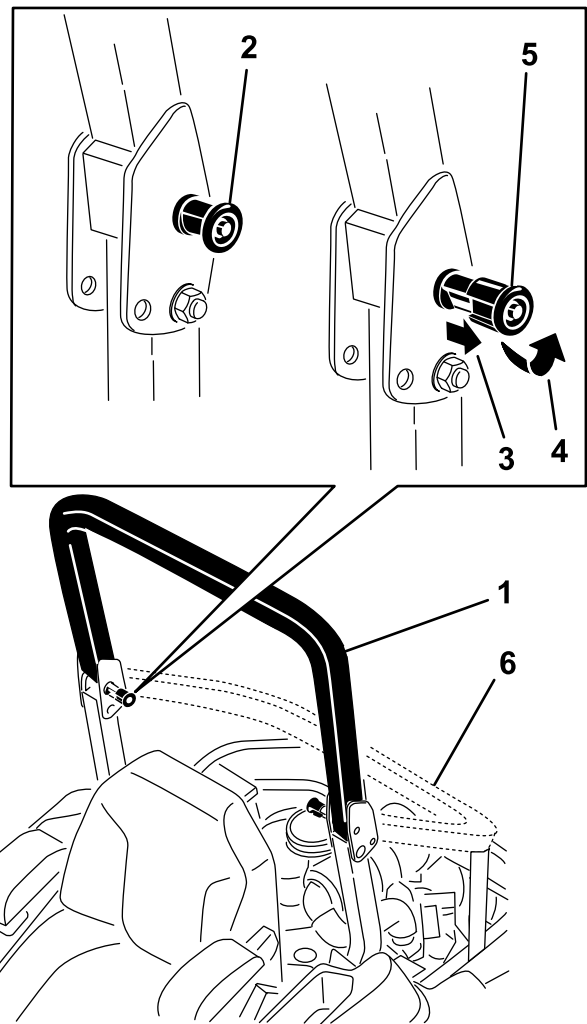

Figure 9
2. Pull both knobs out and rotate them 90 degrees so they are not engaged (Figure 9).
3. Lower the roll bar to the down position (Figure 9).
1. Raise the roll bar to the operating position and rotate the knobs until they move partially into the grooves (Figure 9).
2. Raise the roll bar to the full upright position while pushing on the upper roll bar so that the pins snap into position when the holes align with the pins (Figure 9).